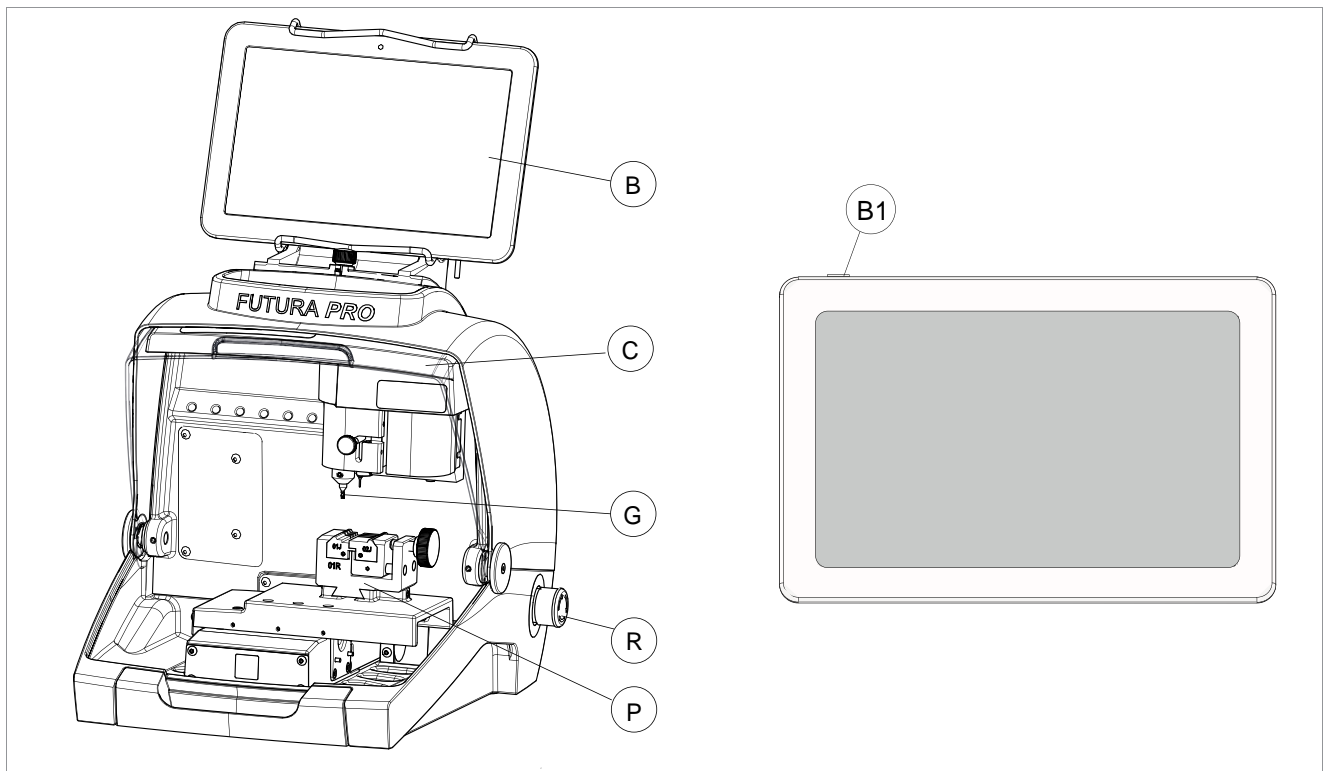

Fig. 22
- 2) Turn on the tablet by holding down the push button (B1) (Fig. 22) holding it down for a few seconds.